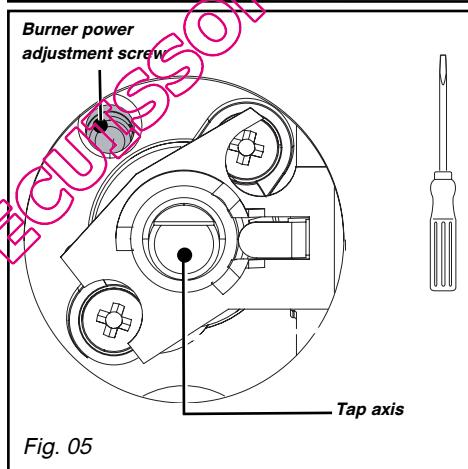

Fig. 05
- With a small flat-head screwdriver, **screw in all the way** the brass (yellow) burner power screws (Fig. 05), **in a clockwise direction**.